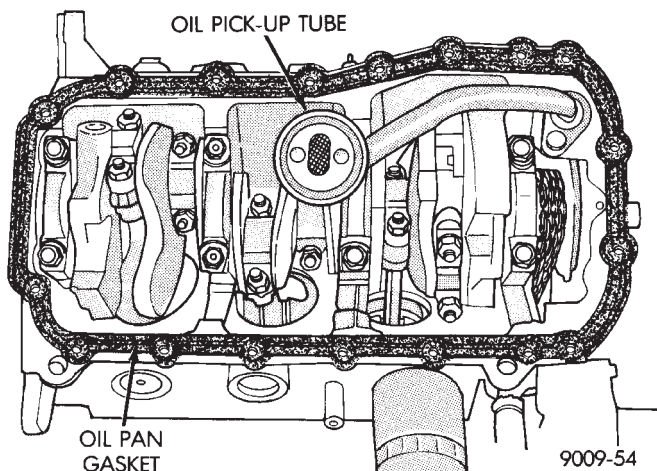

Fig. 4 Oil Pan Gasket Installation
- (3) Use a new pan gasket (Fig. 4).
- (4) Install pan and tighten screws to 23 N•m (200 in lb.).